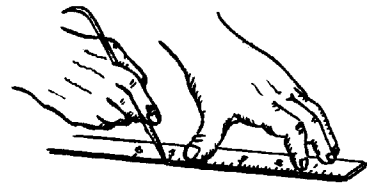

FIG. 2 SCRIBING A LINE
3. Place the steel rule flat on the work in position for scribing. Grasp the scribe in the right hand as a pencil is gripped. (Fig.2).
4. Hold the rule firmly by exerting pressure with the tips of the fingers of the left hand (Fig.2).